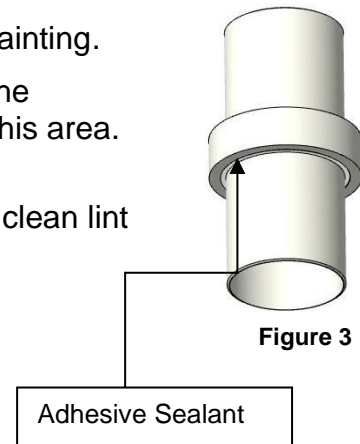

Figure 3
2. Care must be taken not to damage the adhesive sealant during the abrasion process. Manual abrading practices should be used in this area. See Figure 3.